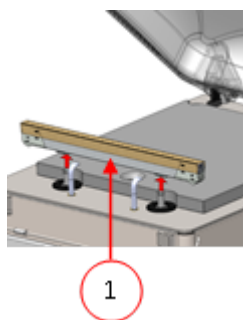

Figure 25: Removing the Sealing Bar (Plastic Lid)
On machines with a plastic lid, the sealing bars are mounted on cylinders (Figure 25: Removing the Sealing Bar (Plastic Lid) on page 73). On machines with a metal lid, the sealing bars are mounted in the lid (Figure 26: Removing the Sealing Bar (Metal Lid) on page 73).
1. Remove the sealing bar by lifting it from the cylinders. See *Figure 25: Removing the Sealing Bar (Plastic Lid)* on page 73.
Plastic lid	Lift the sealing bar from the cylinders. See Figure 25: Removing the Sealing Bar (Plastic Lid) on page 73.